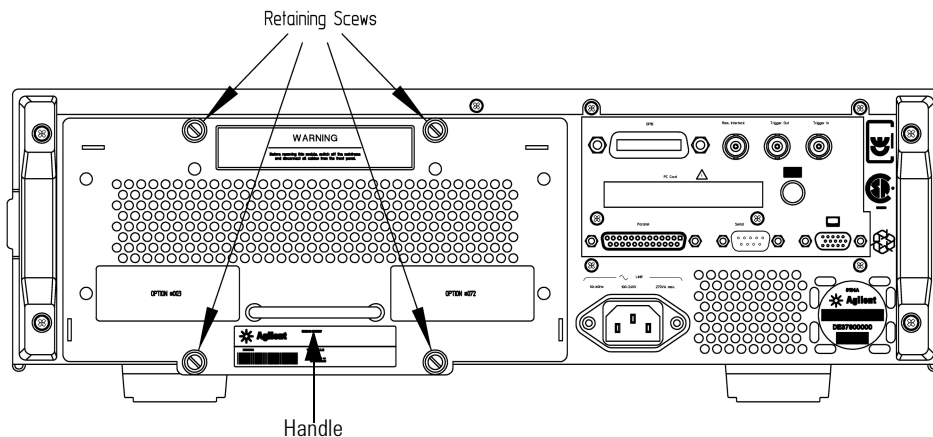

Figure 189 Back Panel of Agilent 8164B Lightwave Measurement System
- 1 Untighten the retaining screws, see Figure 189, that secure the module in the instrument.